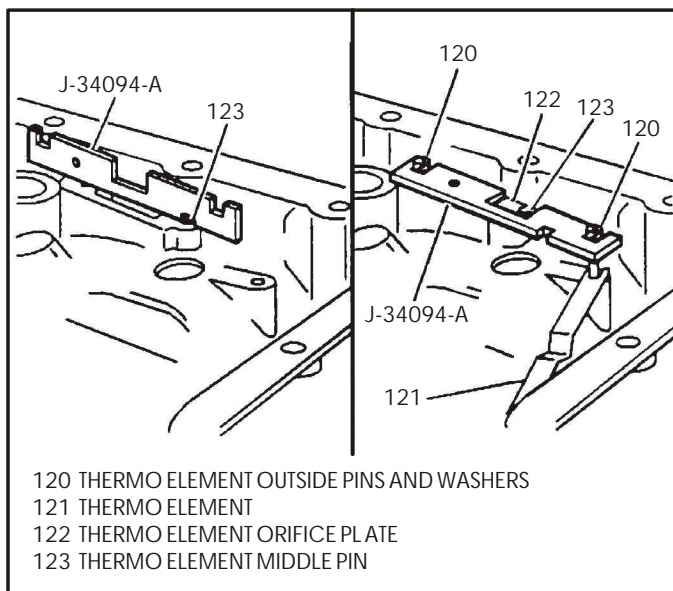

Figure 196
1. Use tool J-34094-A in order to set the height of middle thermo element pin (See Figure 196).
3. Use tool J-34094-A in order to set the height of the outside pin and washer (120) that is the farthest from the accumulators, as shown in Figure 196.
4. Use tool J-34094-A in order to set the height of the second outside pin and washer (120) shown in Figure 196.